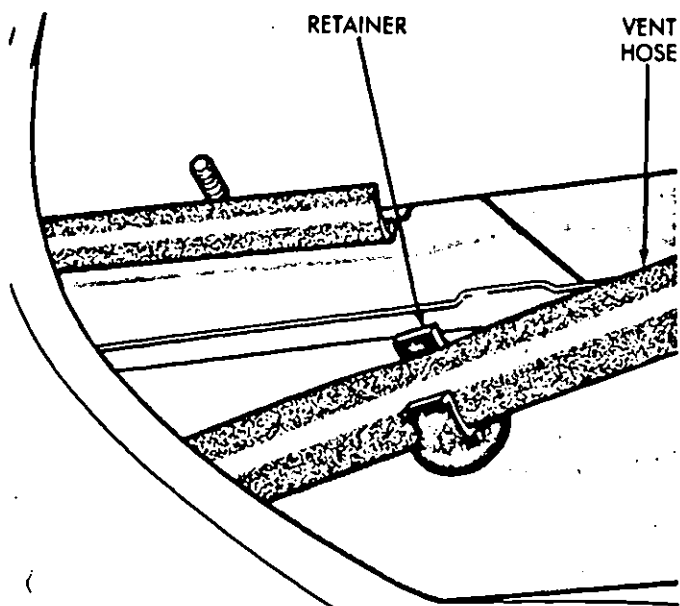
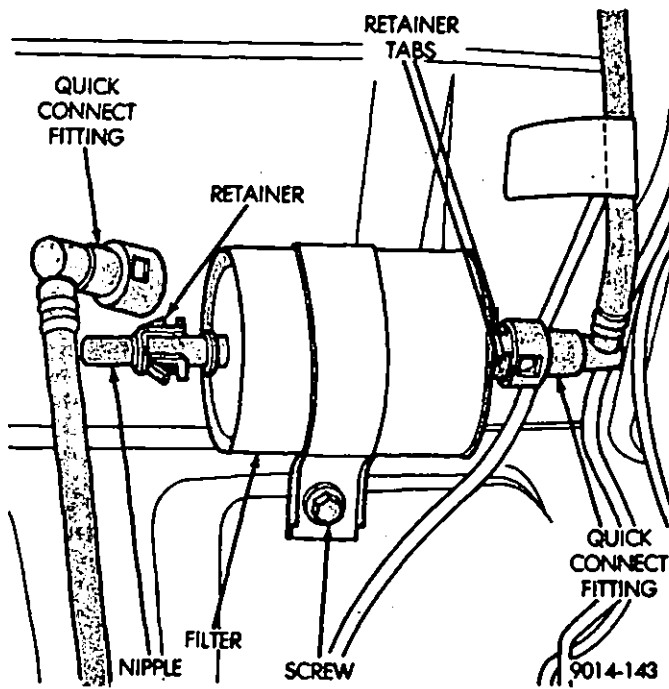

Fig. 9—Vent Hose Retainer Clip
Fig. 11—Fuel Supply Tube and Fuel Filter Quick-Connect Fitting
(9) Slide fuel tank vent hose out of retainer clip on the frame (Fig. 9).
(12) Using a clean lint free cloth, wipe the quick-connect fitting connections at fuel filter inlet nipple and in the grey fuel return tube clean of dirt and/or road salt. Spray compressed air around the retainer area of the fittings to remove any loosened dirt or road salt. Disconnect the quick-connect fittings by squeezing the retainer tabs and pulling the fitting back (Fig. 11). The quick-connect retainer will stay on the nipple.
(10) Connect the quick-connect fittings at the fuel filter (Fig. 11) and the in-line fitting in the gray fuel return tube.
(11) Connect electrical connector for the fuel pump/sender unit and slide it onto the mounting bar attached to the frame.
(12) Connect the fuel tank to evaporator canister tube.
(13) Attach fuel vent hose to fuel tank filler neck. Secure with hose clamp. Route the hose through the clip on the body (Fig. 9).